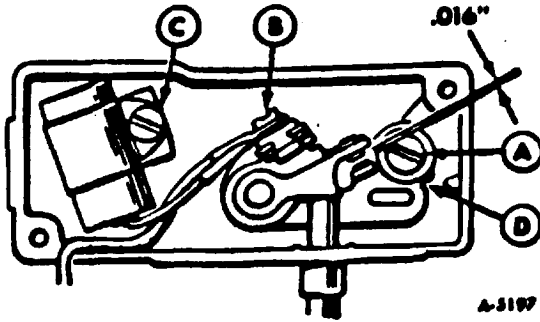

Figure 1—Breaker Point Adjustment—Type 1
3. Remove mounting screw (A) and pull the points out of the box just far enough so screw (B) can be removed and leads disconnected.
4. Remove screw (C) and replace condenser with a new one. Tighten screw (C).
5. Replace points with a new set. Tighten screw (B) but do not completely tighten mounting screw (A).
7. Rotate engine clockwise (facing flywheel) by hand until  $20^{\circ}$  BTDC mark on flywheel aligns with center of timing access hole. (Note, early units marked at  $25^{\circ}$  BTDC should be set at  $25^{\circ}$  BTDC.) Then, using a screwdriver inserted in notch (D) on the left side of the points (reverse view of figure 1), adjust points until test lamp just goes out (or Ohmmeter reads Infinity). Tighten screw (A).